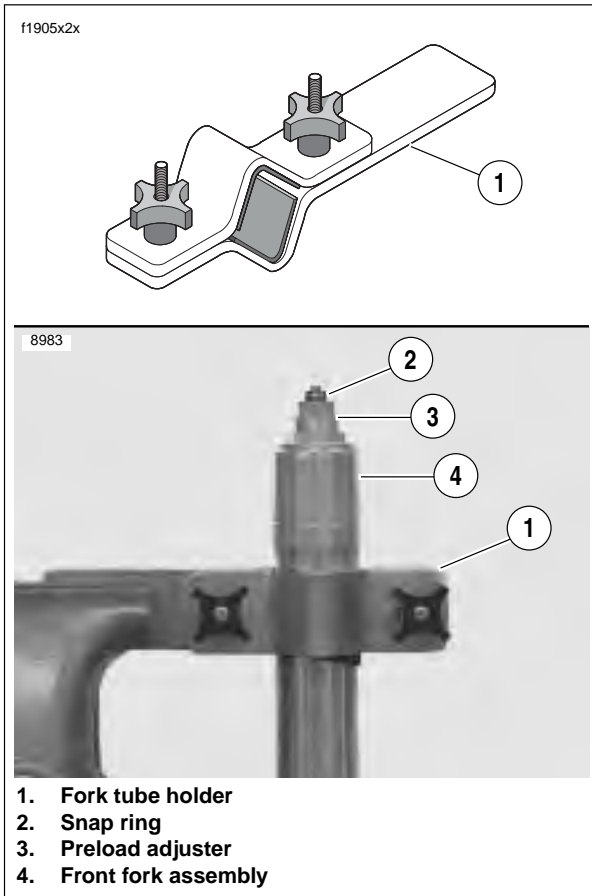

Figure 2-64. Fork Tube Holder (HD-41177)
2. See Figure 2-64. Clamp the FORK TUBE HOLDER TOOL (1) (Part No. HD-41177) in a vise and install the upper part of the front fork in the holding tool.
3. Remove snap ring (2).